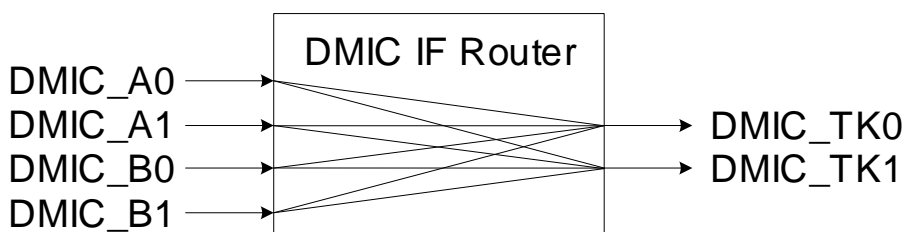

Figure 35. DA7400 DMIC interface router
De-interleaved DMIC input data signals are routed through a register-configurable router, see Section 15.9.2. The router allows complete freedom in connecting DMIC input data to internal microphone talk (TK) signals, see Figure 35. The talk path is muxed with the ADC in the input filters of the input path block, see Section 10.